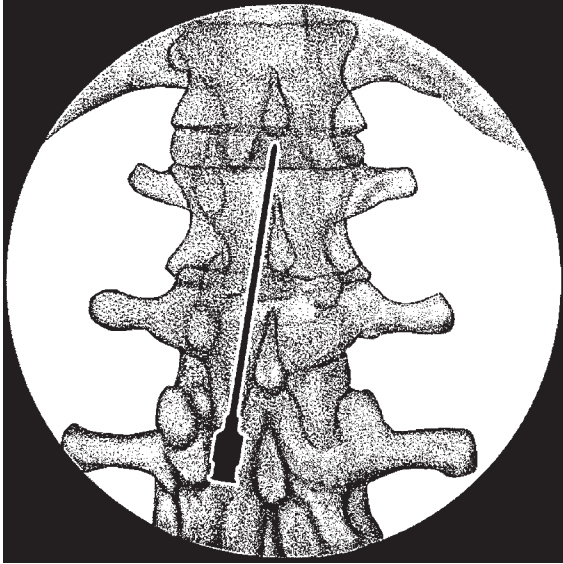

FIGURE 7
- 2 Confirm the needle location under fluoroscopy (FIGURE 7).